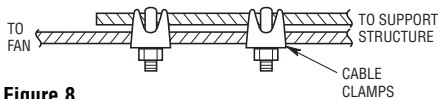

Figure 8
- 3. This fan is equipped with the required retention cable. This cable must be affixed to the building structure and securely clamped in such a manner to support the weight of the fan in the event the mounting hook or other parts fail. After wrapping cable around or to a structural member that will support 50 pounds, secure cable with supplied cable clamps as illustrated in Figure 8.
CAUTION: It is important to note the proper installation position of the cable clamps as illustrated in Figure 8. To obtain maximum holding power, install U-bolt section of clip on dead or short end of cable and saddle on long end of cable. Improper installation reduces the efficiency of the connection by as much as 40 percent.